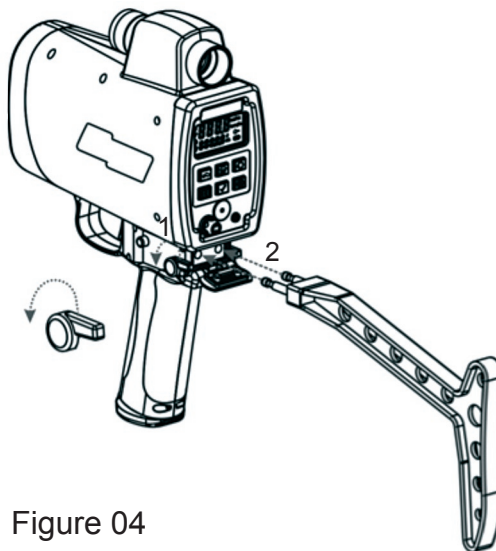

Figure 04
2. Align the pronged end of the Shoulder Stock with the Shoulder Stock Attachment Point as shown in Figure 04.